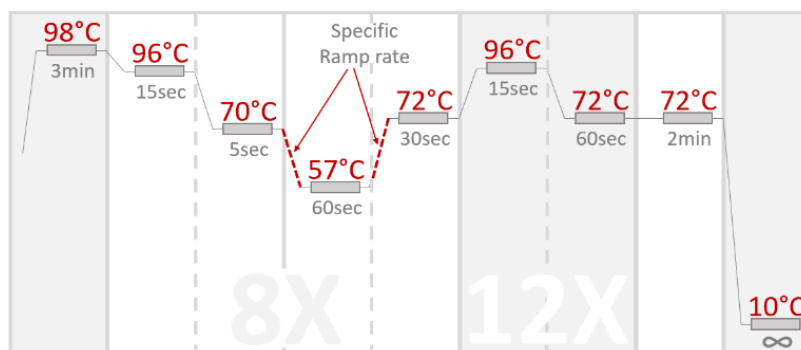

FIGURE 2. GRAPHIC VIEW OF THE PCR CYCLING PROTOCOL
- The overall PCR cycling protocol is illustrated in Figure 2.